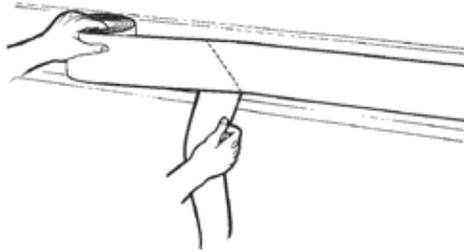

Figure 1
3. Without stretching the marking, hold two to three (2-3) feet (arm's length) of marking in position against the surface with one hand. Slowly remove the liner from the back with your other hand by pulling down on the liner. Do not lose alignment. Do not stretch the marking. Gently tack the marking in place with your hand (Figure 1).